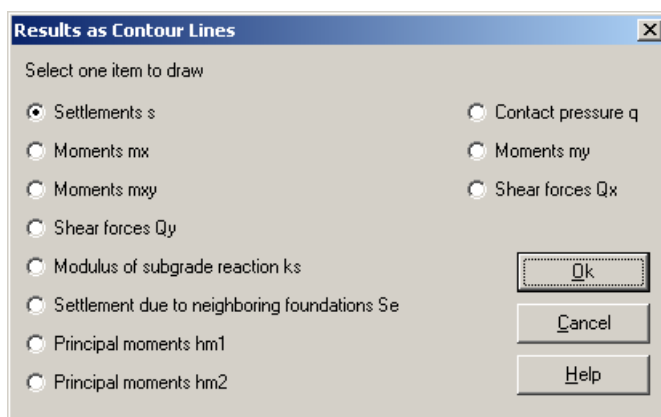

Figure 9-40 "Results as contour lines" option box
- Choose "Results as contour lines" command from "Graphic" menu of *ELPLA-Graphic*. The following option box in Figure 9-40 appears
The option box in Figure 9-40 appears